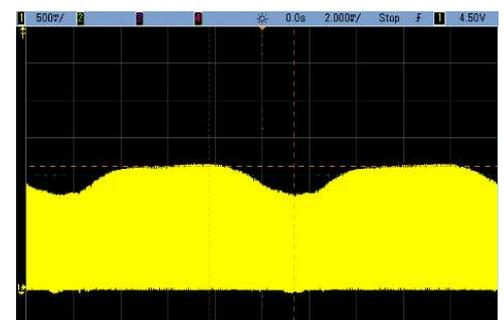

Figure 12: RC pin at 10% load
Monitor RED2541 pin 5 (RC) waveform (Figure 12) through a line cycle. The controller IC will enter burst mode if the maximum frequency limit is reached, i.e. when the peaks of the RC waveform are < 350mV.